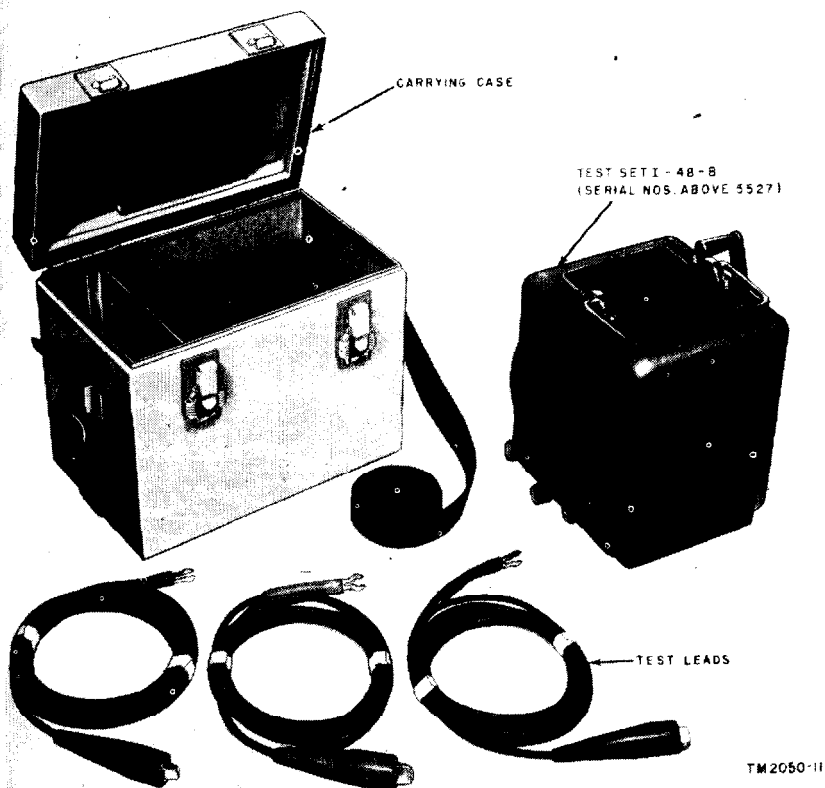

Figure 3. Test ser I-48-B (serial numbers 5527 and higher), carrying case, and test leads.
b. *Test Set I-48-B (Serial Numbers 5527 and Higher) and Ohmmeter ZM-21A/U.* The following table gives the unpacked weights and dimensions of Test Set I-48-B (serial numbers 5527 and higher) (fig. 3) and Ohmmeter ZM-21A/U and of the accessories furnished with this equipment:
- (2) (2) Test Sets I-48-B with serial numbers lower than 5527 (and approximately 340 units with serial numbers between 5527 and 6996) are supplied with plywood carrying cases in an olive-drab finish (fig. 2). Later models of Test Set I-48-B are supplied with waterproof aluminum carrying cases in a smooth gray enamel finish (fig. 3). Each case has a separate compartment for storing the test leads. The main compartment is lined with sponge rubber.
- (3) (3) The Test Sets I-48-B in the plywood carrying cases ((2) above) are provided with two flexible, insulated test leads. One test lead is equipped with a red battery clip cover on one end and red insulating sleeving above the spade-type terminal on the other end; the other test lead is equipped with a black battery clip cover and black insulating sleeving. Later models of Test Set I-48-B are supplied with three test leads one with a red battery clip cover and red insulating sleeving, and two with black battery clip covers and black insulating sleeving.
Test Set I-48-B and Ohmmeter ZM-21A/U are portable, self-contained instruments designed to be used near the equipment, the wire, or the cable line to be tested. Place the equipment on a firm, level surface with the indicator scale plate in a horizontal plane. Do not place it in a strong, external magnetic field similar to that produced by some types of electrical equipment. Before operating the ohmmeter, ground it through the equipment under test by connecting the GROUND terminal on the side of the case to the equipment in accordance with instructions for the type of equipment under test. When the ohmmeter is removed from the carrying case, the hand generator crank is folded against the side of the case with the handle extending over the top of the case (fig. 3). Unfold the crank to bring it into its operating position.